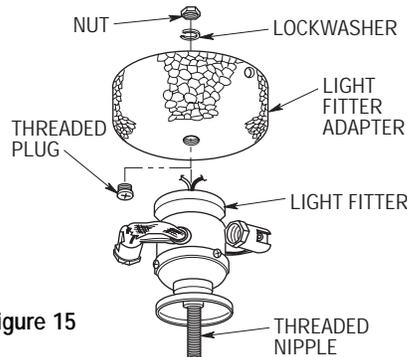

Figure 15
- 7. For Operating Your Fan With the Downlight Fixture. Remove the threaded plug from the light fitter adapter. Feed the black and white wires of the light fitter assembly through the hole in the adapter and screw the threaded nipple of the light fitter into the adapter hole (Figure 15). Install nut and lockwasher onto threaded nipple inside of adapter and securely tighten.